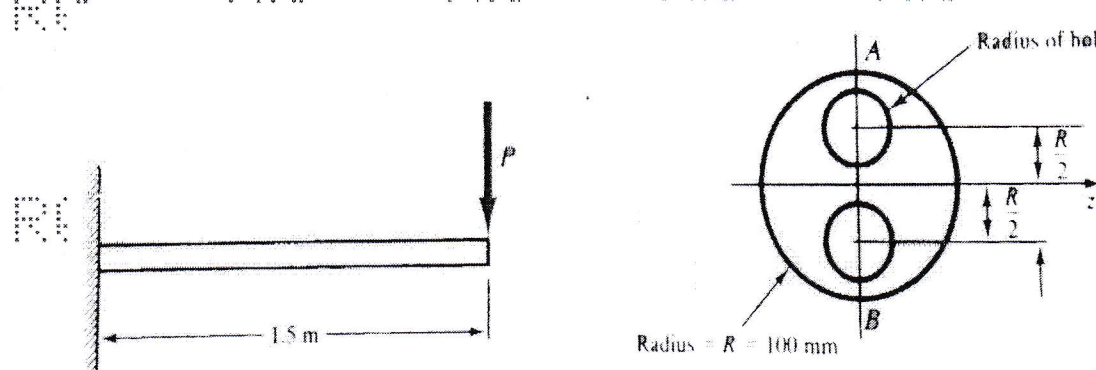

Figure: 3
7. A cantilever beam is of length 1.5 m, loaded by a concentrated force P at its tip as shown in Figure 3 and is of circular cross section (R=100 mm) having two symmetrically placed longitudinal holes as indicated, the material is titanium alloy, having an allowable working stress in bending of 600 MPa. Determine the maximum allowable value of the vertical force P. [10]